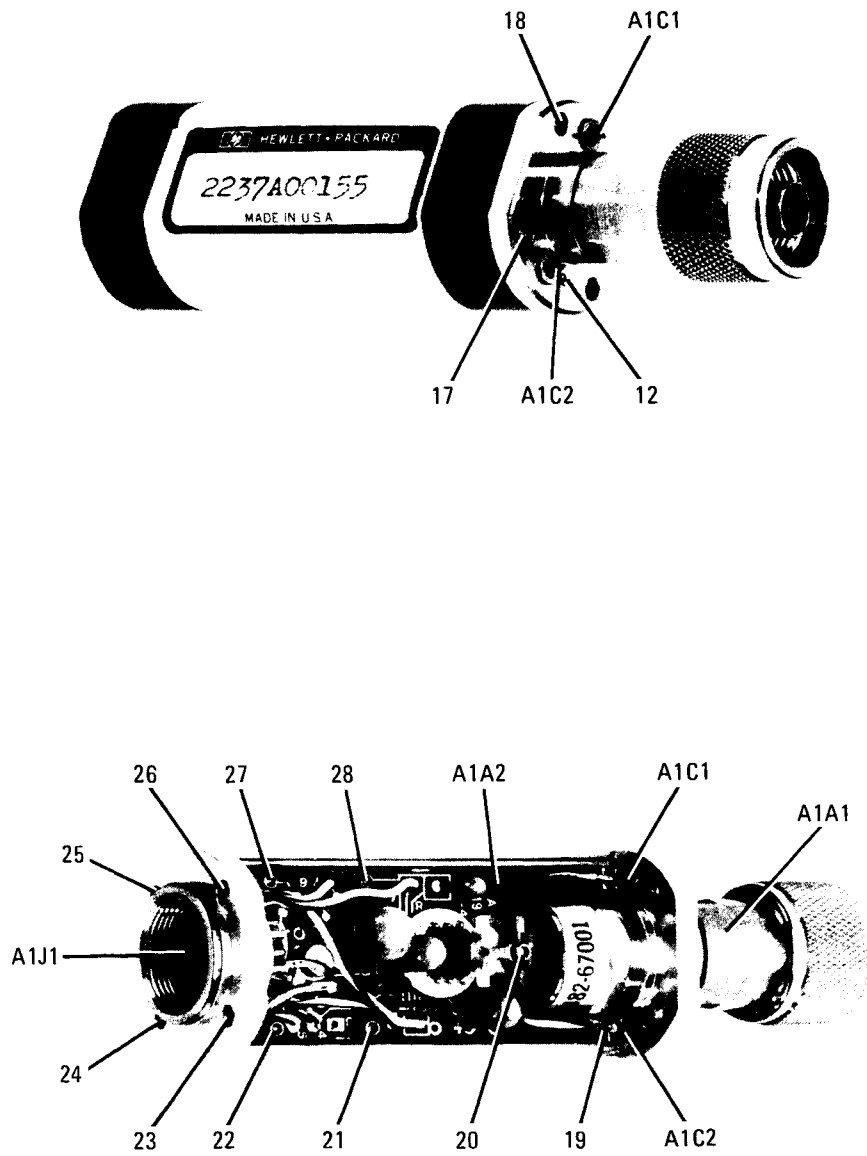

Figure 7. A1 Power Sensor Part Locations
1. Remove the Power Sensor from the Sensor Module and orient the power sensor as shown in Figure 7, "A1 Power Sensor Part Locations", of Service Sheet A. (Refer to Sensor Module Disassembly Procedure in paragraph 28.) Remove the magnetic shields from around the power sensor body by unpeeling the tape which binds them. (The tape can be reused.)